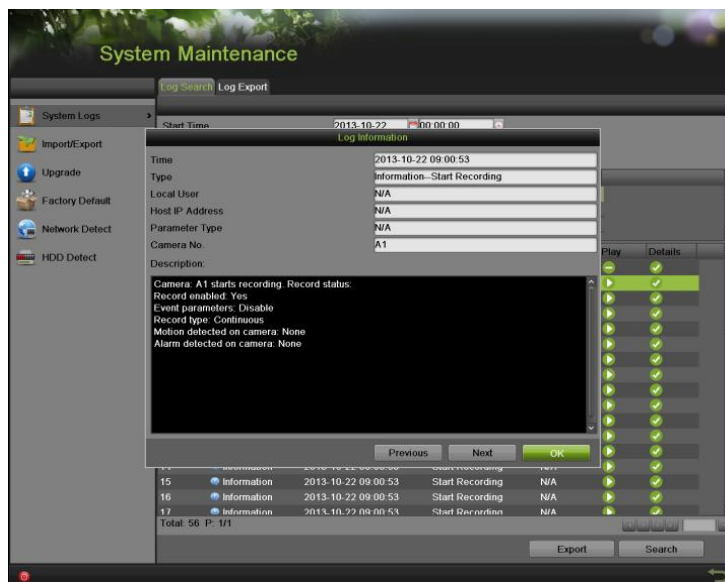

Figure 175 Log Information
- Click  under the Detail item to view the detail information, as shown in Figure 175.